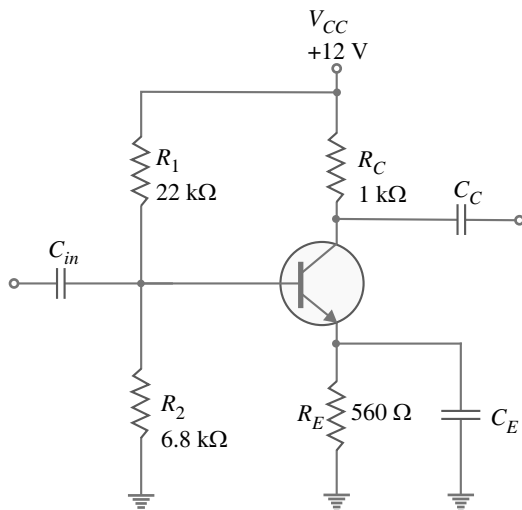

Fig. 8.4
**Example 8.2.** Select a suitable value for the emitter bypass capacitor in Fig. 8.4 if the amplifier is to operate over a frequency range from 2 kHz to 10 kHz.